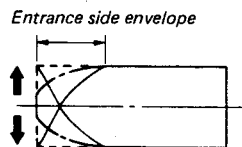

Fig. 1-4-17 Video envelope rising when operation mode is switch from review to play mode
2. Switch the Review mode to the Play mode. When switched to the Play mode, make sure the entrance side envelope comes to an approximate steady state within 3 seconds as shown in Fig. 1-4-17.